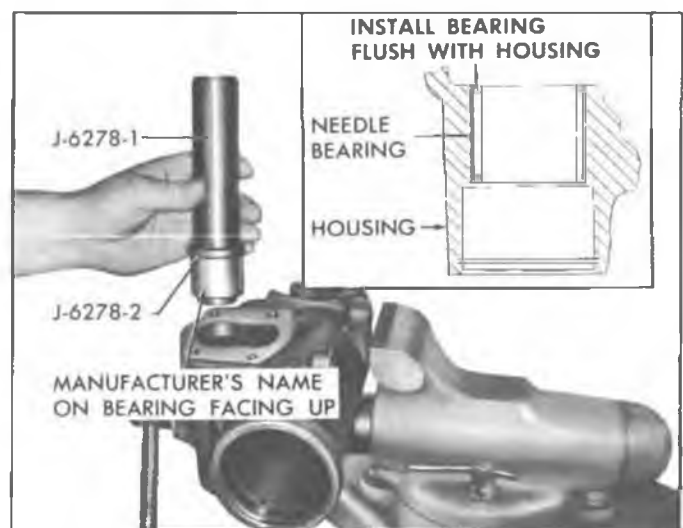

Fig. 50—Installing Pitman Shaft Bearing
1. If the pitman shaft needle bearing was removed, place Adapter J-6278-2 over Tool J-6278; slide the new needle bearing on the tool with the bearing manufacturer's identification against the adapter and drive the bearing into the housing until adapter bottoms in housing (fig. 50).